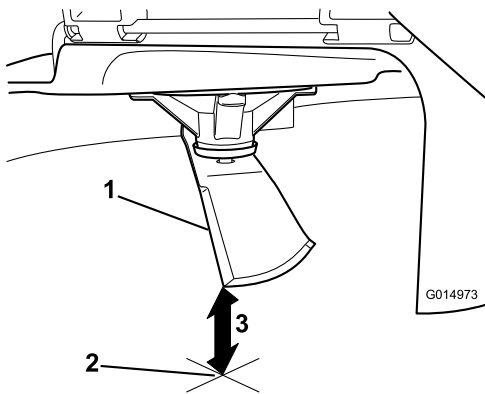

**Figure 56**
4. Rotate the same blade 180 degrees so that the opposing cutting edge is now in the same position (Figure 56).